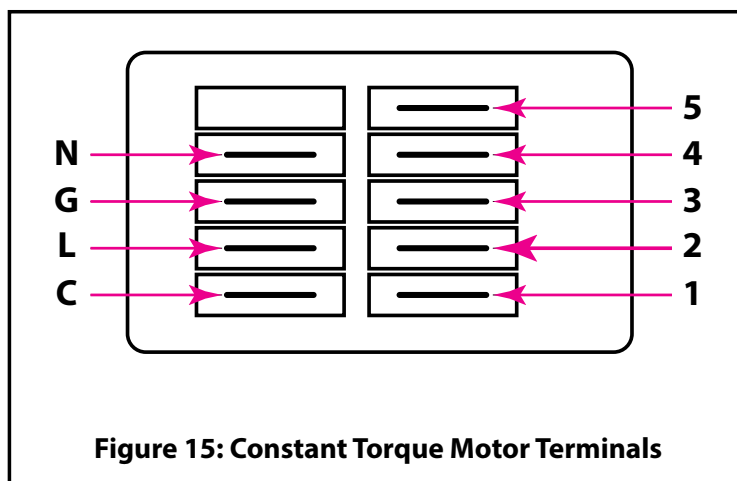

Figure 15: Constant Torque Motor Terminals
4. Move the BLACK and RED wires connected to terminals 1-5 on the motor terminal block (See Figure15) to the desired speed taps. See Table 14 for the speed tap descriptions.